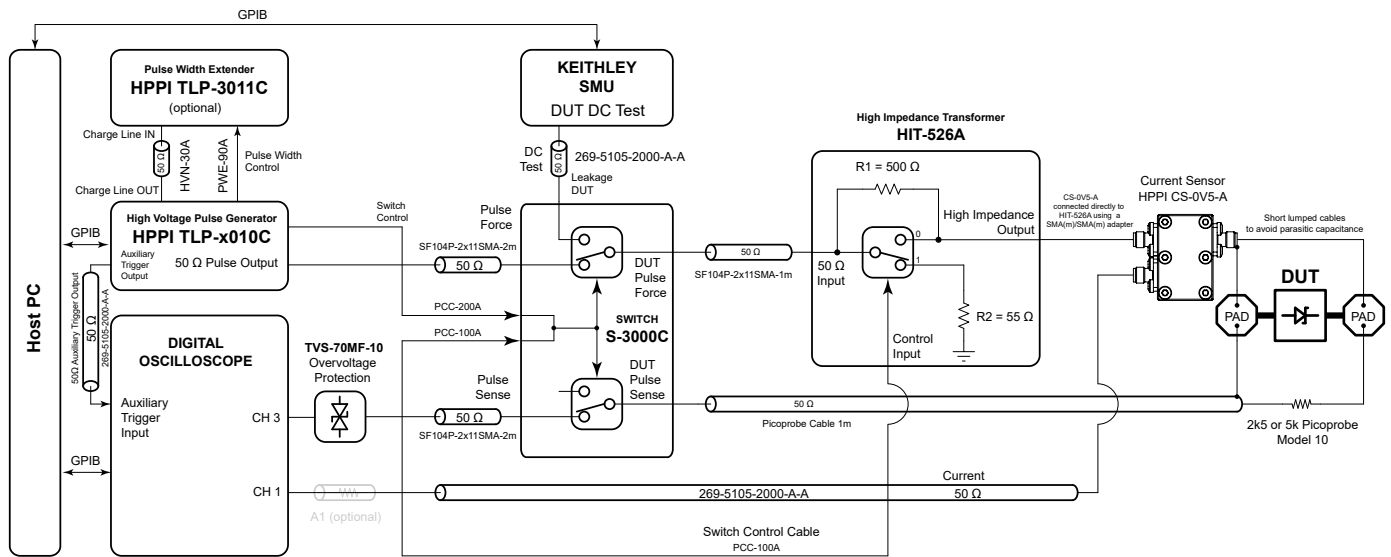

Figure 5: High impedance TLP on-wafer measurement setup.
The high impedance TLP measurement setup (Fig. 5) is used to investigate the DUT in a 526 Ω high impedance load line. Especially in case of snapback devices this gives more accuracy for the holding voltage and device failure levels which are more close to the values to be obtained in the high impedance HBM stress mode.
1. Connect all components, instruments and cables with part numbers shown in Fig. 5.